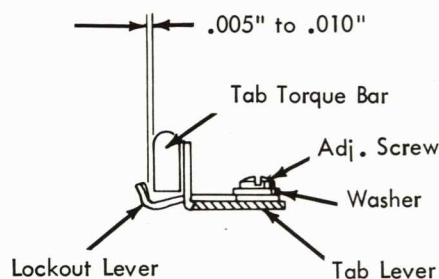

FIGURE 173.4. Lockout Lever
7. Lockout Lever (Fig. 173.4) - Position to clear the torque bar by .005" to .010" with the torque bar at rest.